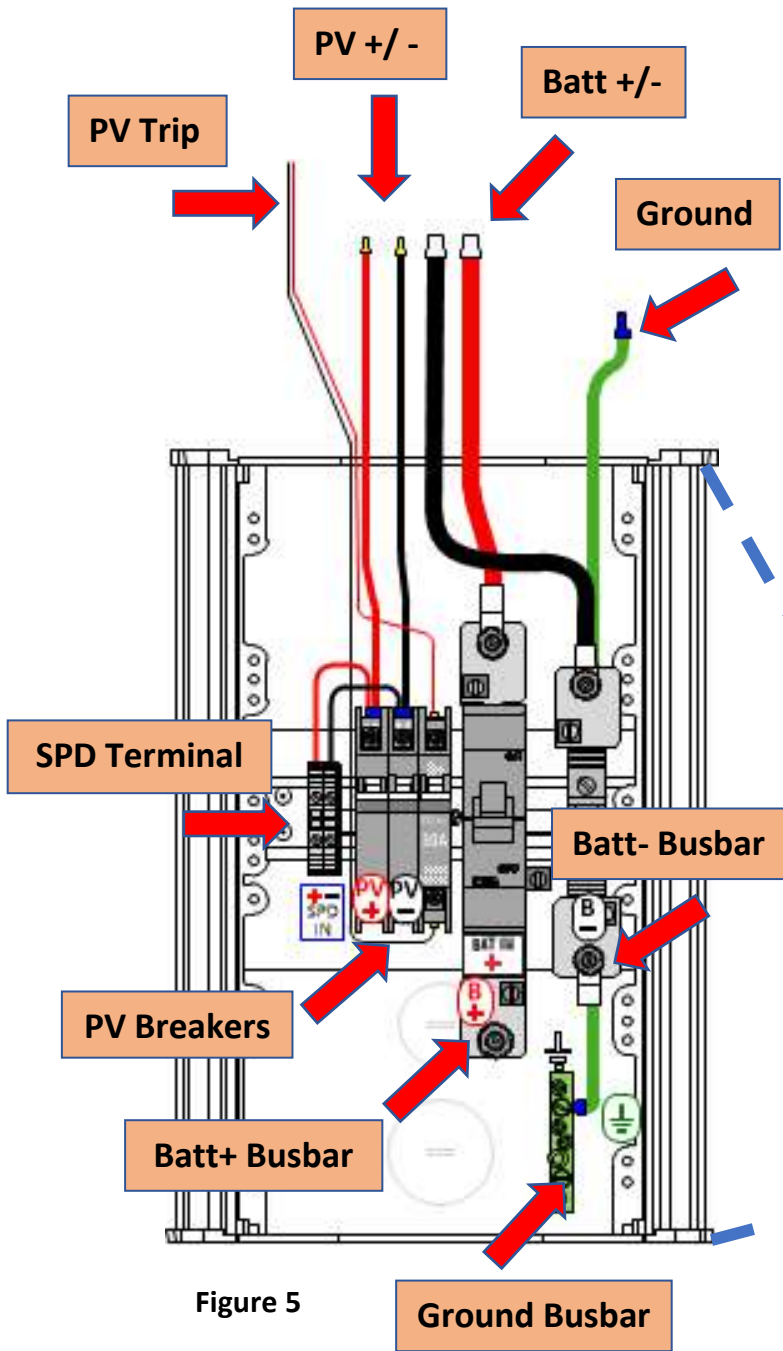
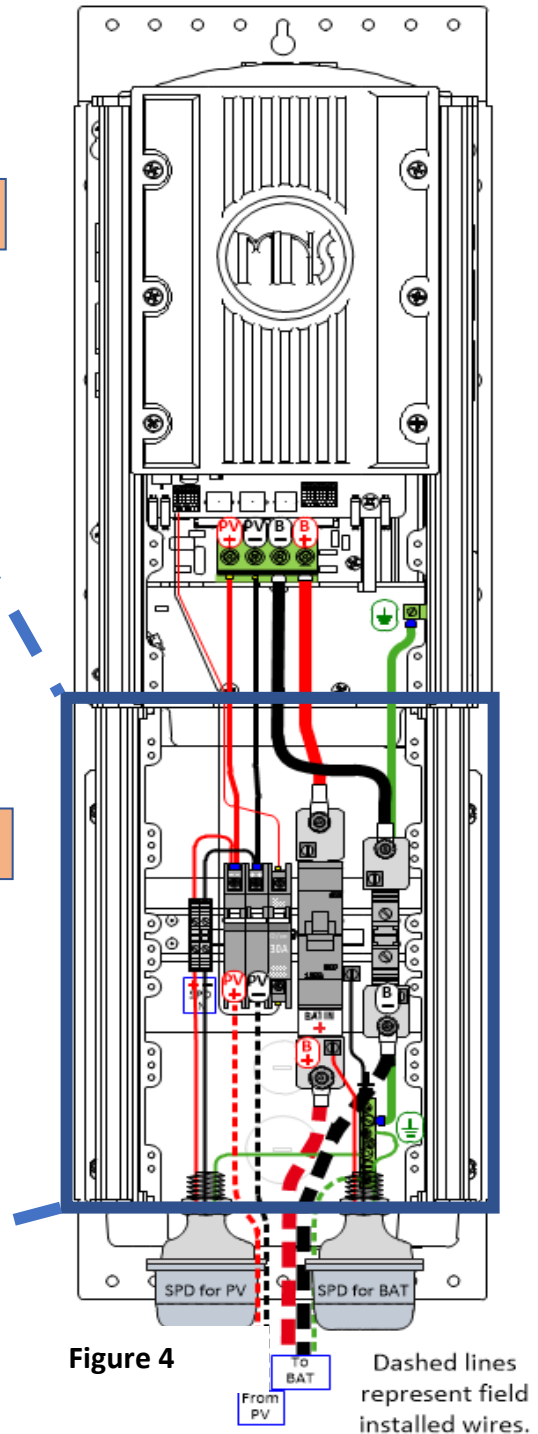

Figure 5
Figure 4
- **Figure 5** shows the Ground busbar in the Breaker Box.
HAWKE'S BAY & BREAKER BOX WIRING (Figures 4, 5, 6, 7, 8, 9, & 10)
Reference **Figure 4** for an overview of a wired Hawke's Bay and Breaker Box. **Figure 5** shows the pre-wired Hawke's Bay Breaker Box.
Pre-Installed Wiring (Figures 4, 5, 6, 7, & 8)